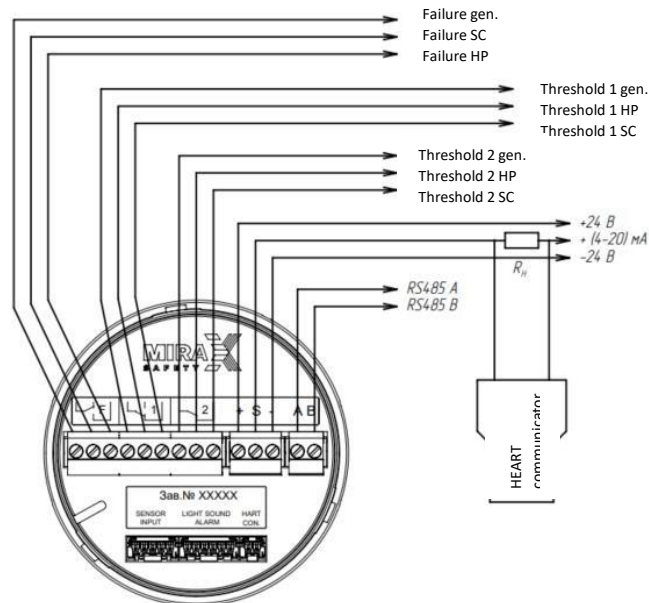

Figure 13 – AXIOM gas detector connection scheme
- 4) Carry out cable connections in accordance with the intended use and labelings on the module according to Figure 13. Avoid ingress of moisture into the gas detector during performance of works. The maximum cross-section of the clamped wire is 2.5 mm^2 . When connecting two wires to one terminal: the maximum cross-section shall be 1.5 mm^2 .